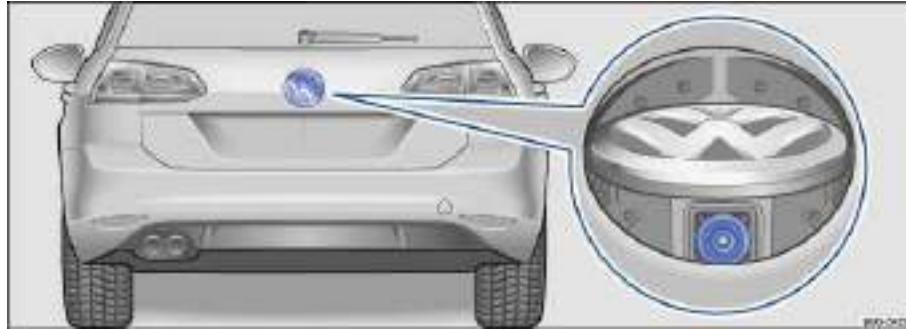

Fig. 145 In the rear hatch: Location of the camera.
- ✓ A reliable and clear image must be displayed and the camera lens must be clean ⇒ fig. 145.
The camera ⇒ fig. 145 (magnified view) displays only two-dimensional images. Recesses and protruding objects on the ground or protruding parts on other vehicles may be difficult or impossible to identify due to the lack of depth of field.